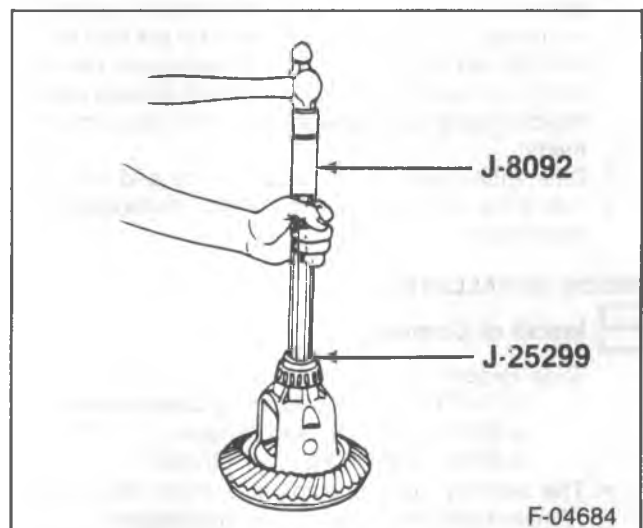

Figure 12—Installing the Side Bearing
9. Differential side bearings (22) using J 25299, J 8092, and J 8107-2 (figure 12).
10. Differential case (24) to the axle housing. Refer to "Side Bearing Pre-Load Adjustment" in this section.